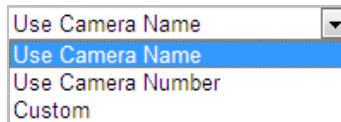

Figure 7-13 Child Directory
- ◆ **Child directory:** It is a sub-folder which can be created in the parent directory. The files will be saved in a sub-folder in FTP server. The name of folder can be defined as shown in following Figure 7-13.